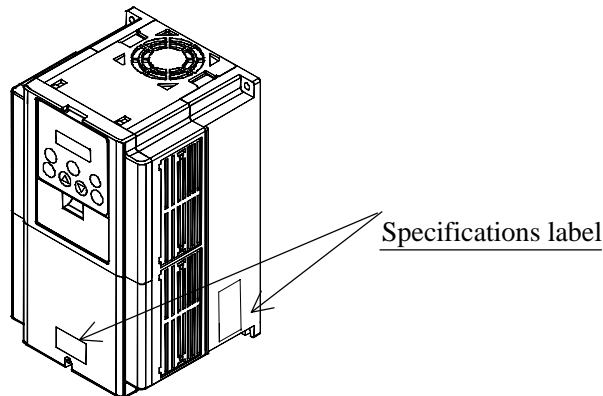

Figure 5-2(1) position of specification
(Note 4) Main body of SJ300 Production number (MFG No) is written main body of SJ300 specifications label. Refer to figure 5-2(1), figure 5-2(2) please.